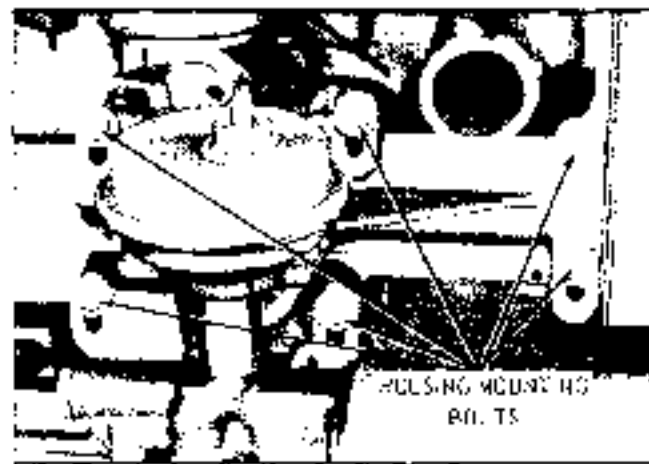

Fig. 6-38 Housing Mounting Bolts
7. Remove housing assembly by removing six retaining bolts (Fig. 6-38).